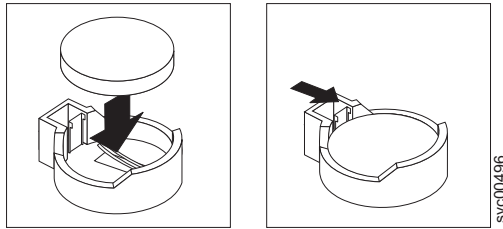

Figure 113. Installing the SAN Volume Controller 2145-8A4 CMOS battery
- c. Press the battery down into the socket, as shown in Figure 113 on page 130, until it clicks into place. Make sure that the battery clip holds the battery securely.